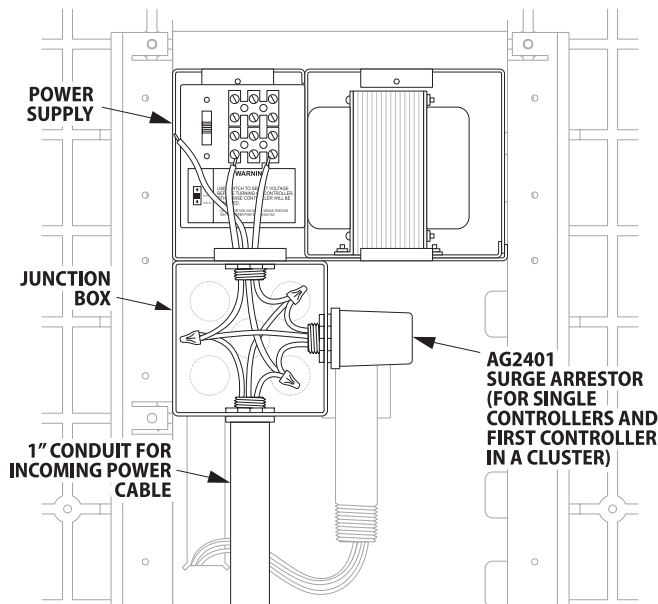

Figure 3
2. Secure the junction box to the conduit using a short nipple and the required fittings as shown in Figure 3.
1. In the junction box, connect the AC power wires (black, white, and green) as shown in Figure 3.